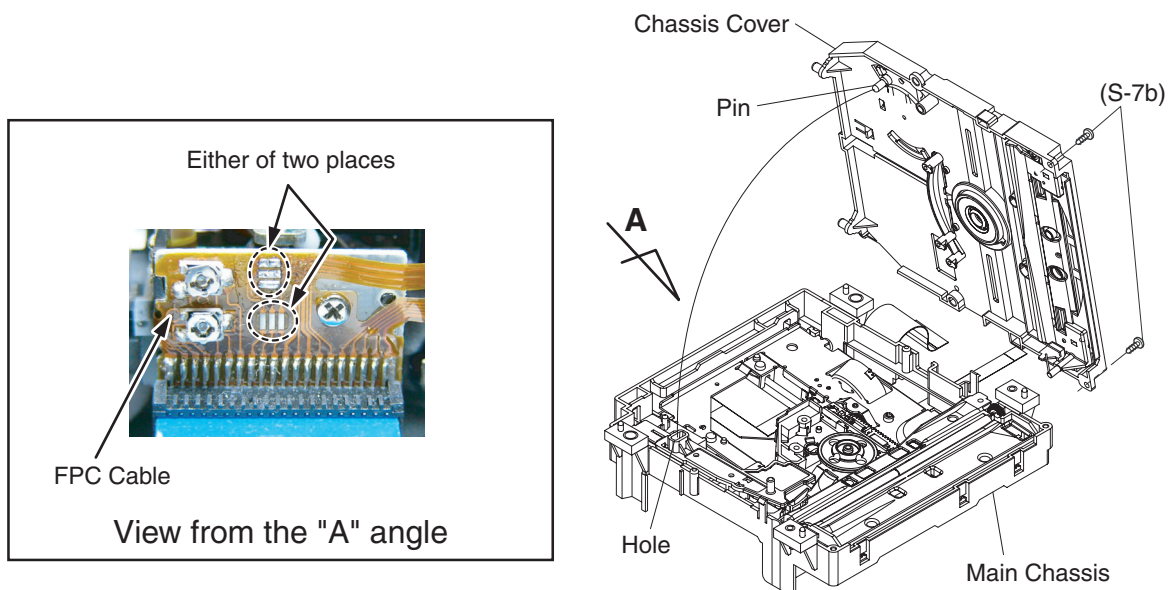

Fig. D2
- 1) Short-circuit the three short lands of FPC cable with solder before removing the FFC cable (CN201). If you disconnect the FFC cable (CN201) before short-circuiting the three short lands of FPC cable, the laser diode of pickup will be destroyed. (Fig. D2)
- 2) Disconnect the connectors (CN301 and CN801). Remove the screw (S-7a) and remove the DVD Main CBA Unit. (Fig. D2)
- a. To remove the Chassis Cover, remove the two screws (S-7b) as shown in Fig. D2.
- b. To avoid damaging the pickup unit (laser diode), confirm that the three short lands (either of two places) are short-circuited by soldering as shown in Fig. D2.
- e. Insert the Pin on the Chassis Cover into the Hole on the Main Chassis as shown in Fig. D2. Then tighten the two screws (S-7b) to install the Chassis Cover.
3. **CAUTION 2:** When reassembling, confirm the FFC cable (CN201) is connected completely. Then remove the solder from the three short lands of FPC cable. (Fig. D2)
- 2) To remove the DVD Main CBA Unit, remove the screw (S-7a) in Fig. D2. Do not disconnect connectors.
- 3) To remove the Chassis Cover, remove the two screws (S-7b) as shown in Fig. D2.